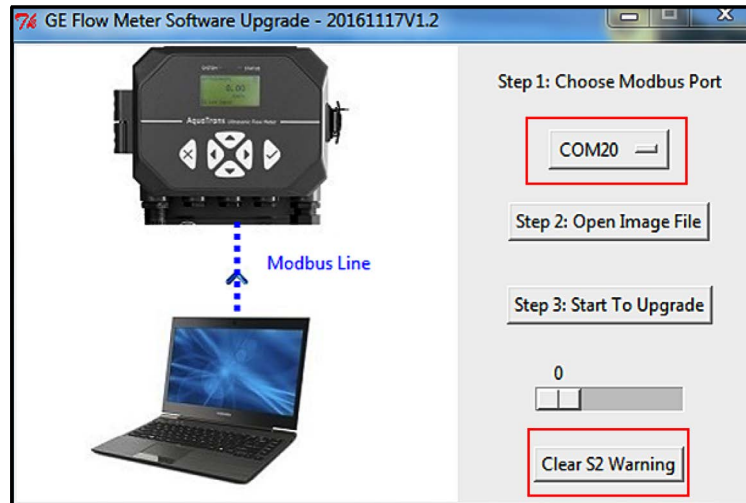

Figure 39: Clearing an S2 warning
1. In the update software, click on the com port button and select the specific port that was used for the update (see top red box in figure 39 below).
2. Click on the clear S2 warning button (see bottom red box in figure 39 below).